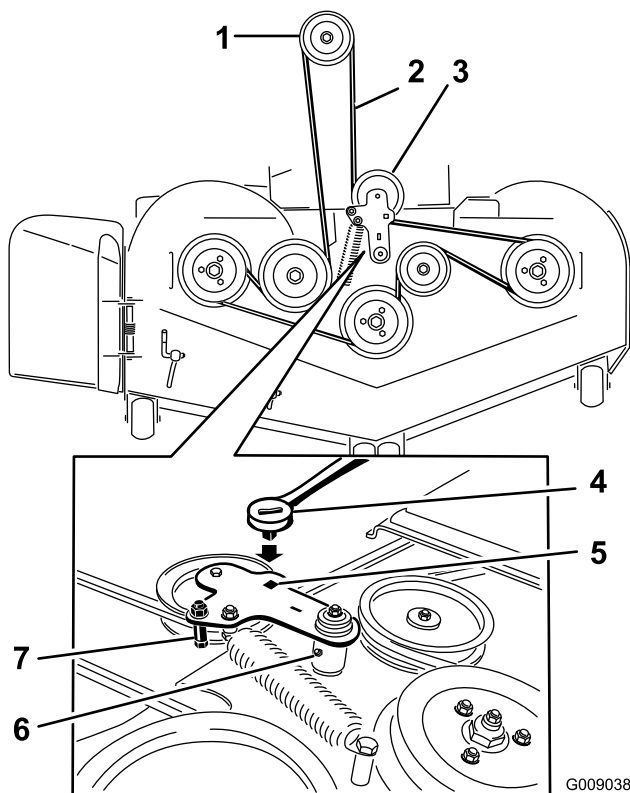
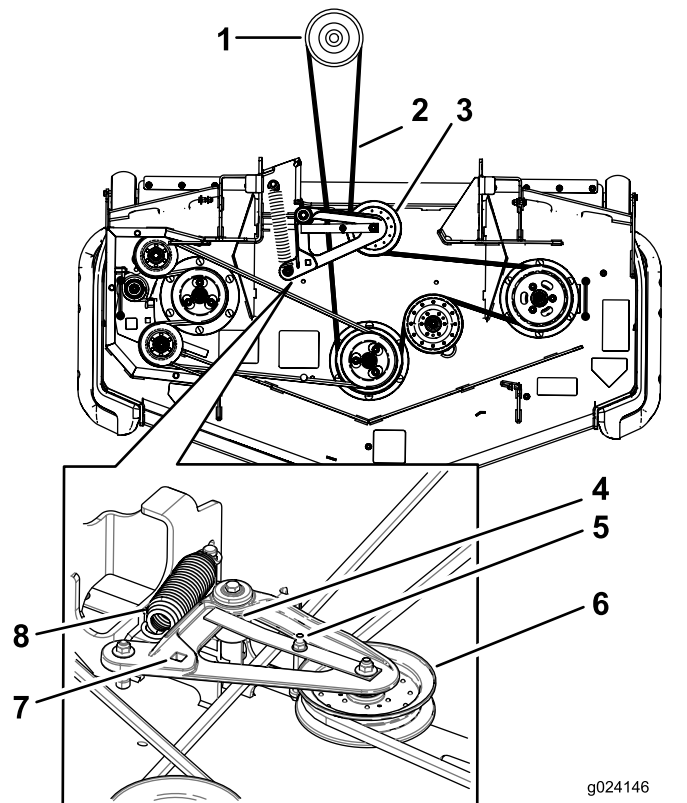

Figure 123
Figure 124
5. Remove the floor pan and insert a ratchet into the square hole in the deck idler (Figure 123 or Figure 124).
6. Rotate the deck idler clockwise, lift up on the belt-guide tab (rear-discharge machines only), and remove the mower belt (Figure 123 or Figure 124).